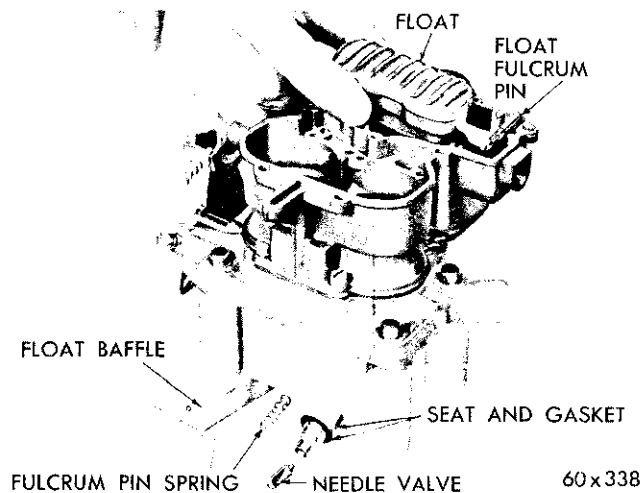

Fig. 18—Removing or Installing Float and Fulcrum Pin
(2) Remove the float fulcrum pin spring, the fuel inlet needle valve, seat and gasket.
(3) Slide the float baffle up and out of its grooves, and remove the float and fulcrum pin, as shown in Figure 18.
(6) Check the float for leaks or damage. If satisfactory for further service, install in position in the bowl (Fig. 18).
(7) Assemble the fuel inlet needle valve, seat and gasket, then insert in the main body. Tighten securely. (If the needle valve is ridged or grooved, or badly worn, a new synthetic rubber-tipped fuel inlet needle valve assembly should be installed.)